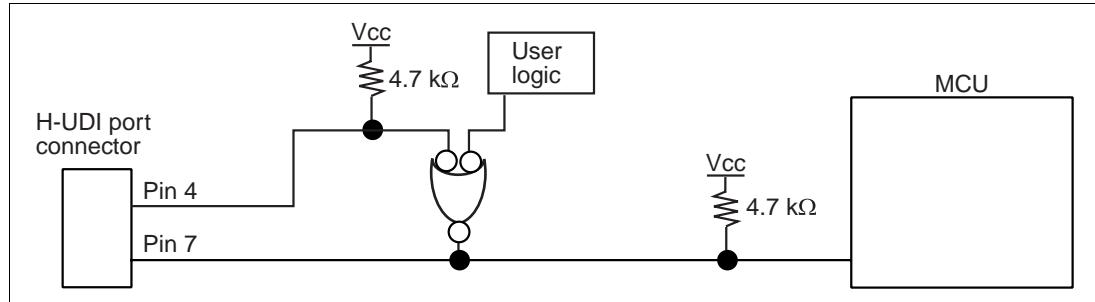

Figure 1.6 Example of Reset Circuits
3. RES# of pin 4 of the H-UDI port connector is a signal line in which the emulator outputs signals to the MCU. RES# of pin 4 and the user system reset circuit must be connected to the MCU, as shown in figure 1.6. RES# of pin 7 of the H-UDI port connector is a signal line in which the emulator monitors the RES# signal of the MCU. The RES# must be pulled up before it is connected to pin 7 of the H-UDI port connector.